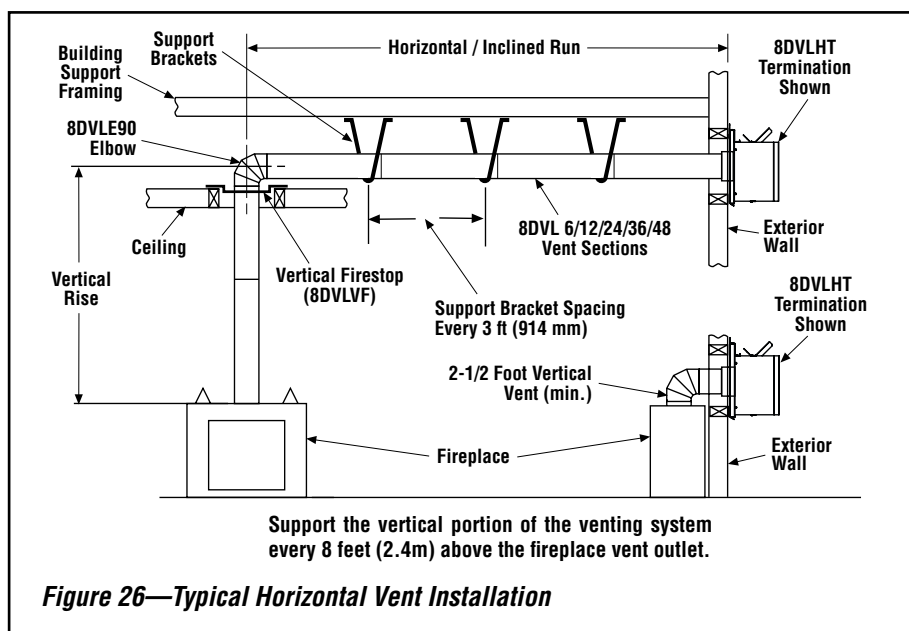

Figure 26—Typical Horizontal Vent Installation
G. Continue installation of horizontal/inclined sections—Continue with the installation of the straight vent sections in horizontal/inclined run as described in **Step C**. Install wall support straps every 3 ft (914 mm) along horizontal/inclined vent runs using conventional plumber's tape. See **Page 19, Figure 26**. It is very important that the horizontal/inclined run be maintained in a straight (no dips), slightly elevated plane. The recommended incline is approximately 1/4" per foot (20 mm per meter) horizontal, in a direction away from the fireplace. The rise per foot run ratios that are smaller are acceptable all the way down to at or near level. Use a carpenter's level to measure from a constant surface and adjust the wall support straps as necessary.
See **Figures 26–31** and their associated Horizontal Vent tables that illustrate the various horizontal venting configurations that are possible for use with these appliances. **8" DV Lock** pipe applications are shown in these Figures. A Horizontal Vent table summarizes each system's minimum and maximum vertical and horizontal length values that can be used to design and install the vent components in a variety of applications.
See **Figure 26**, *It is very important that the horizontal/inclined run be maintained in a straight (no dips), slightly elevated plane. The recommended incline is approximately 1/4" per foot (20 mm per meter) horizontal, in a direction away from the fireplace. The rise per foot run ratios that are smaller are acceptable all the way down to at or near level.*